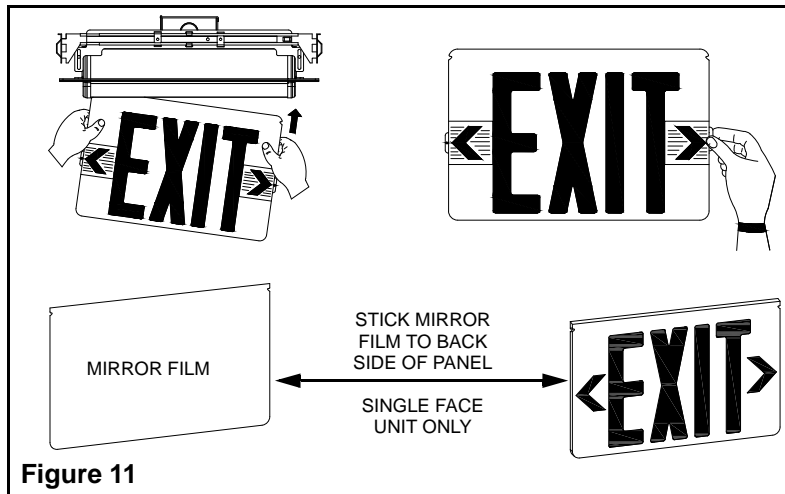

Figure 11
14. Single face EXIT only: ensure the EXIT letter direction is correct then stick the mirror film to the opposite side of the panel (see fig. 11).
15. Insert the EXIT panel gently into the housing assembly (see fig. 11).
16. Determine chevron placement: (see fig.11)
17. This unit can be mounted on any flat surface. The Exit panel can be rotated to any angle range from 0° to 180° (see fig. 11).